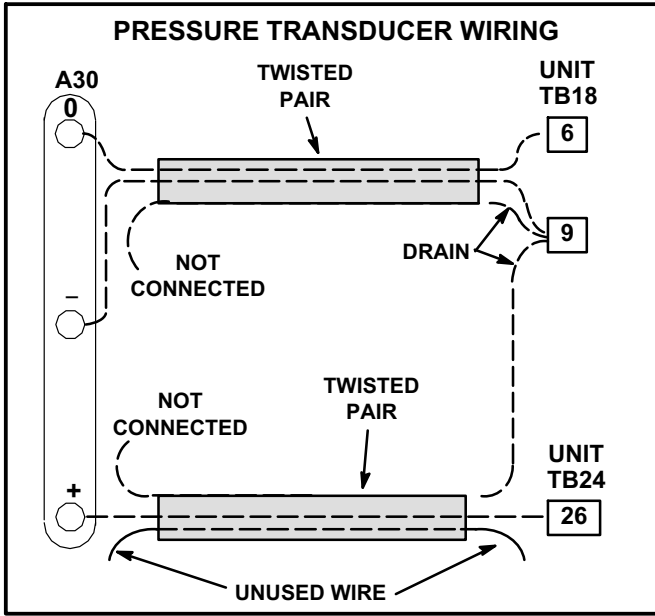

FIGURE 30
- 2- Two twisted pairs of shielded cable must be used to connect the pressure transducer. See figure 30.